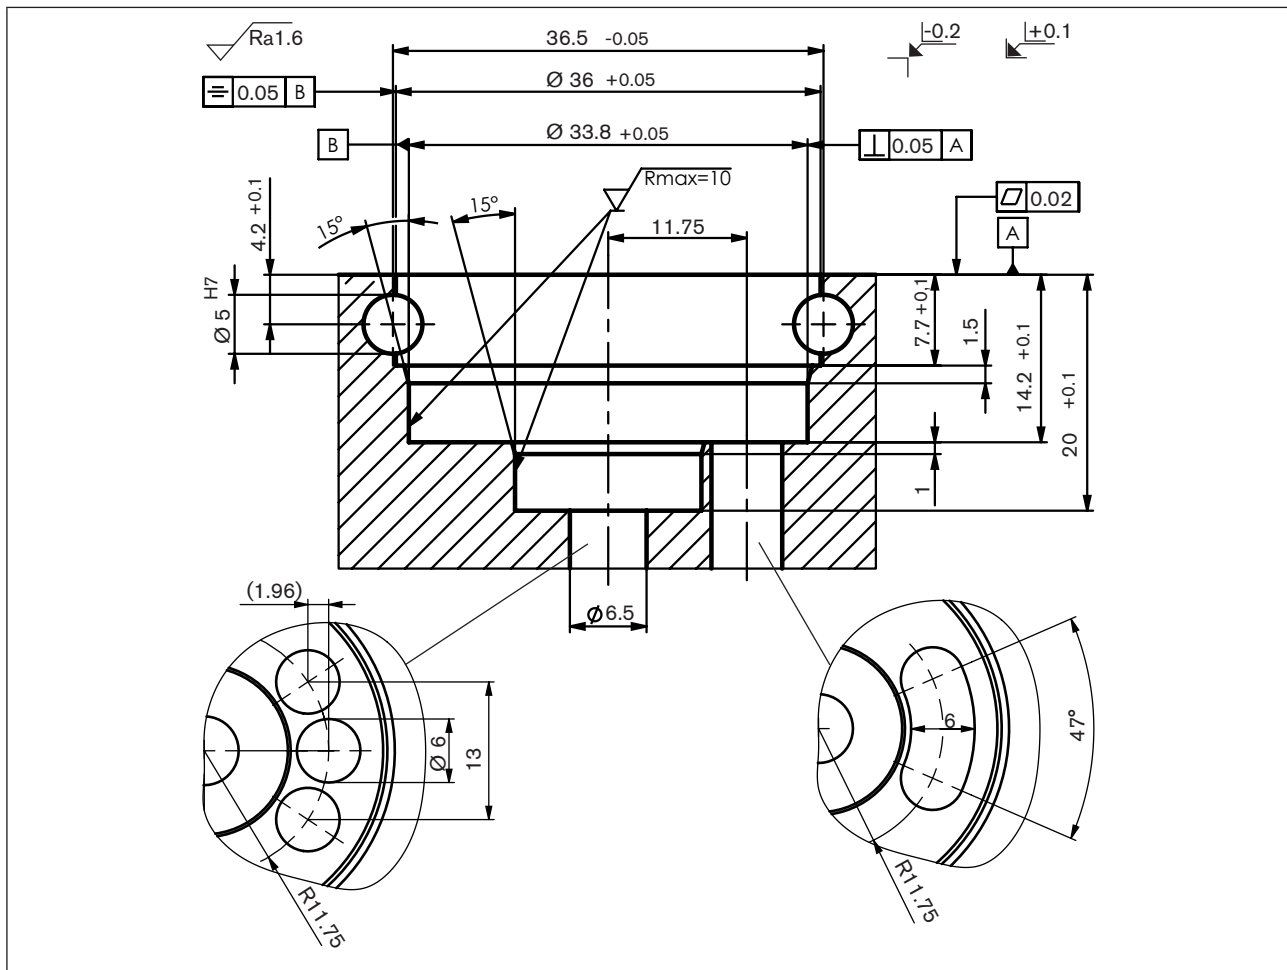

Figure 10: Installation area for cartridge body
- Install valve (see “Figure 10”) and align. When installed, the valve can no longer be turned.